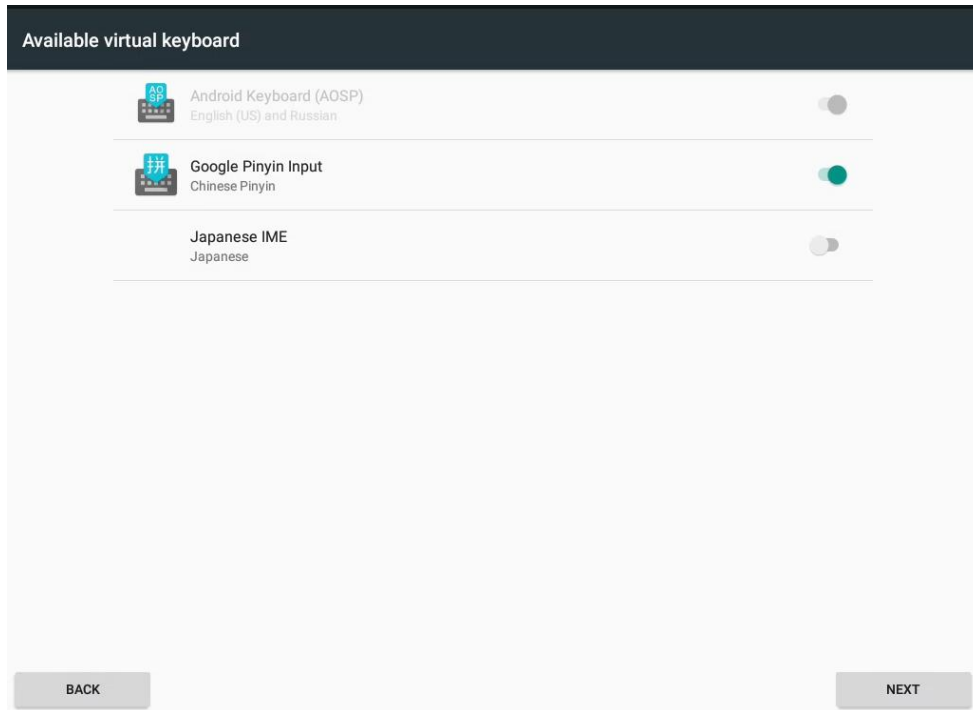

Figure 5.4-14
- Click "keyboard" to set the wifi control board language. (see Figure 5.4-14)